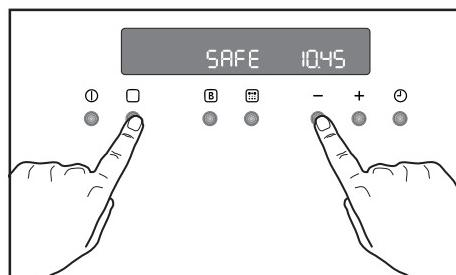

Fig. 13
- 1) Turn off the oven by pressing button ①.
- 2) Press buttons □ and “-” at the same time and keep them pressed for about 3 seconds. An acoustic signal will be emitted and the indication 'SAFE' will appear on the display (Fig. 13).